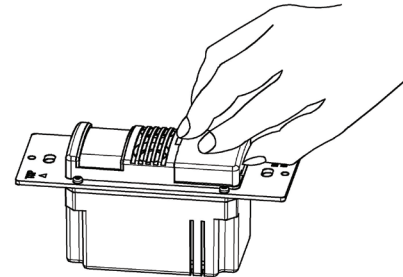

Figure 3
6. Remove the small cover plate. (illustrated as Figure 3.)
7. Locate the adjustment trimpots on the control panel to perform test and adjustment. (illustrated as Figure 3 and 4.)